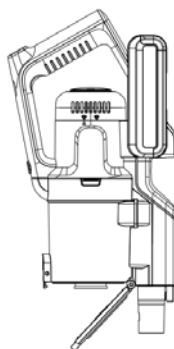

Fig.12
2. Position the dust container over a refuse bin, then press the lever at the front of the container to open the base (Fig. 12) and empty the container. Gently tap the container against the side of the bin to remove any stubborn dust.